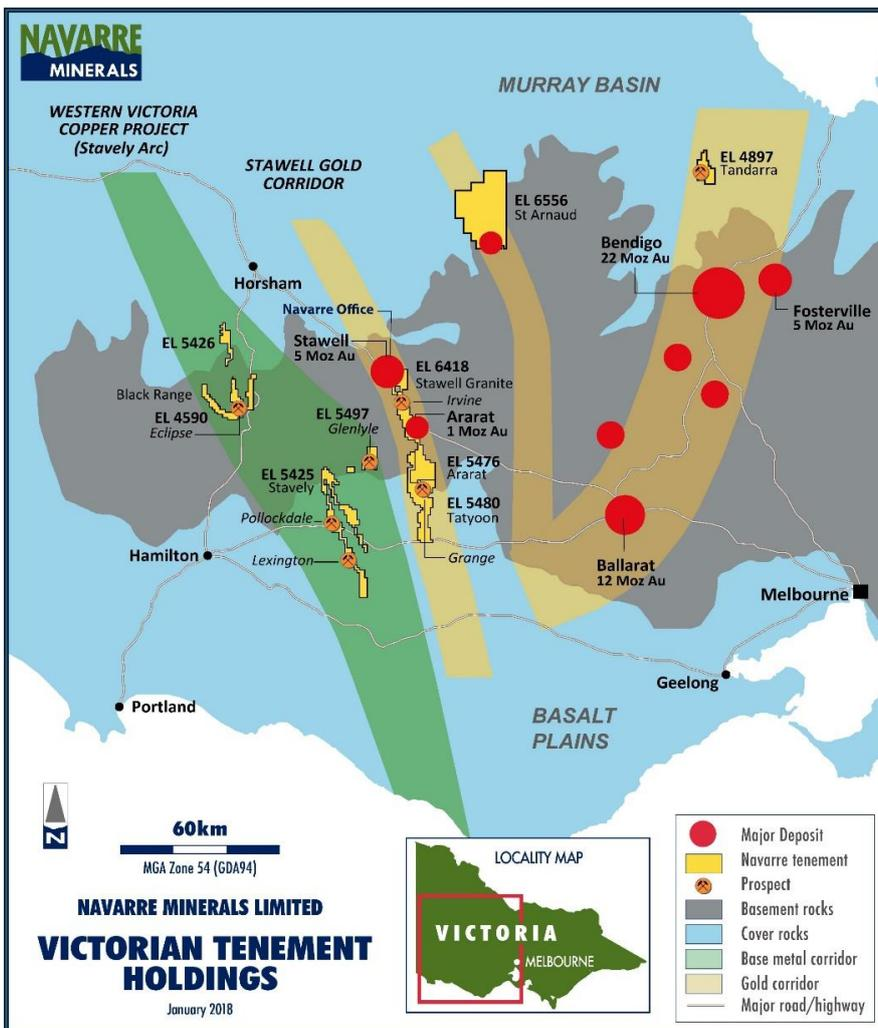

Figure 6: Location of Navarre’s Victorian mineral projects
As previously announced, the first pass AC drilling program at the Glenlyle Project comprising 33 holes for a total of approximately 2,100 metres has been completed and all samples have now been dispatched for laboratory analysis (NML ASX release 8 March 2018). The Company advises that the samples are progressing through the assay laboratory and results will be released following receipt and interpretation (Figure 6).
An 8,000 metre program of Diamond (DD) and AC drilling continues to progress at the flagship Irvine Gold Project with two drill rigs targeting the Resolution and Adventure Lode discoveries (Figure 6).
An ongoing 13,000 metre program of DD, reverse circulation and AC drilling continues at the Tandarra Gold Project under the management of Catalyst Metals Limited (**Catalyst**) (Figure 6). Catalyst is funding the Tandarra drilling program under its Farm-in Agreement with Navarre.
Preparations for a 3,000m reconnaissance AC drilling program testing for potential Fosterville-style high-grade gold mineralisation at the St Arnaud Gold Project are advancing (Figure 6). Four targets where the historic St Arnaud Goldfield is believed to project north under shallow Murray Basin cover have been identified for drill testing. Drilling is scheduled to commence in April 2018.
In line with the Company's strategy of targeting gold mineralisation near multi-million ounce gold mines, the Company secured an area of 479km² surrounding the historic St Arnaud Goldfield (Figure 6). Available data has highlighted considerable potential for a Fosterville-style high-grade gold mineralisation system at the **St Arnaud Gold Project** containing multiple structural targets beneath shallow cover. Four priority, untested, targets have been generated for a reconnaissance AC drilling program.